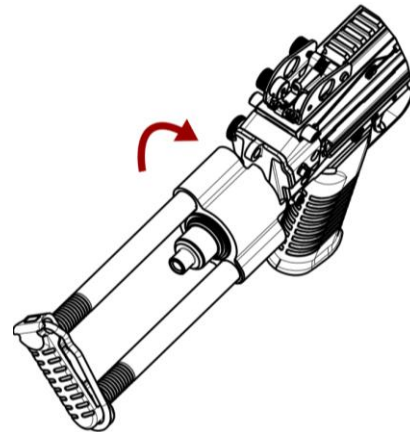

Figure 6
2. Once extended, rotate the buttstock frame clockwise 90 degrees (as viewed from behind the rifle) and into the vertical position. It will lock into the deployed position on its own. See Figure 6.